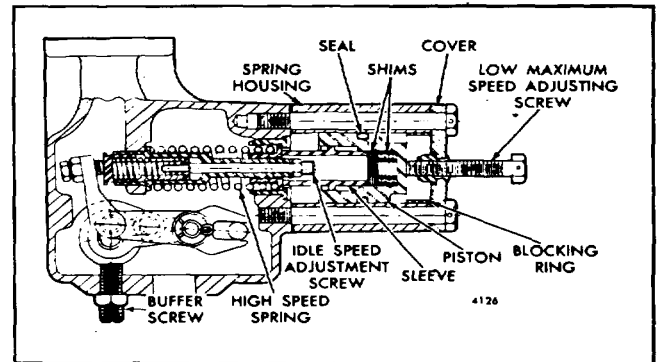

Fig. 2 - Spring and Piston Assembly of Current Dual Range Governor
13. Install the four cover screws (5) with lock washers. One end of the cam spring (20) is anchored to one of the cover screws (Fig. 2).